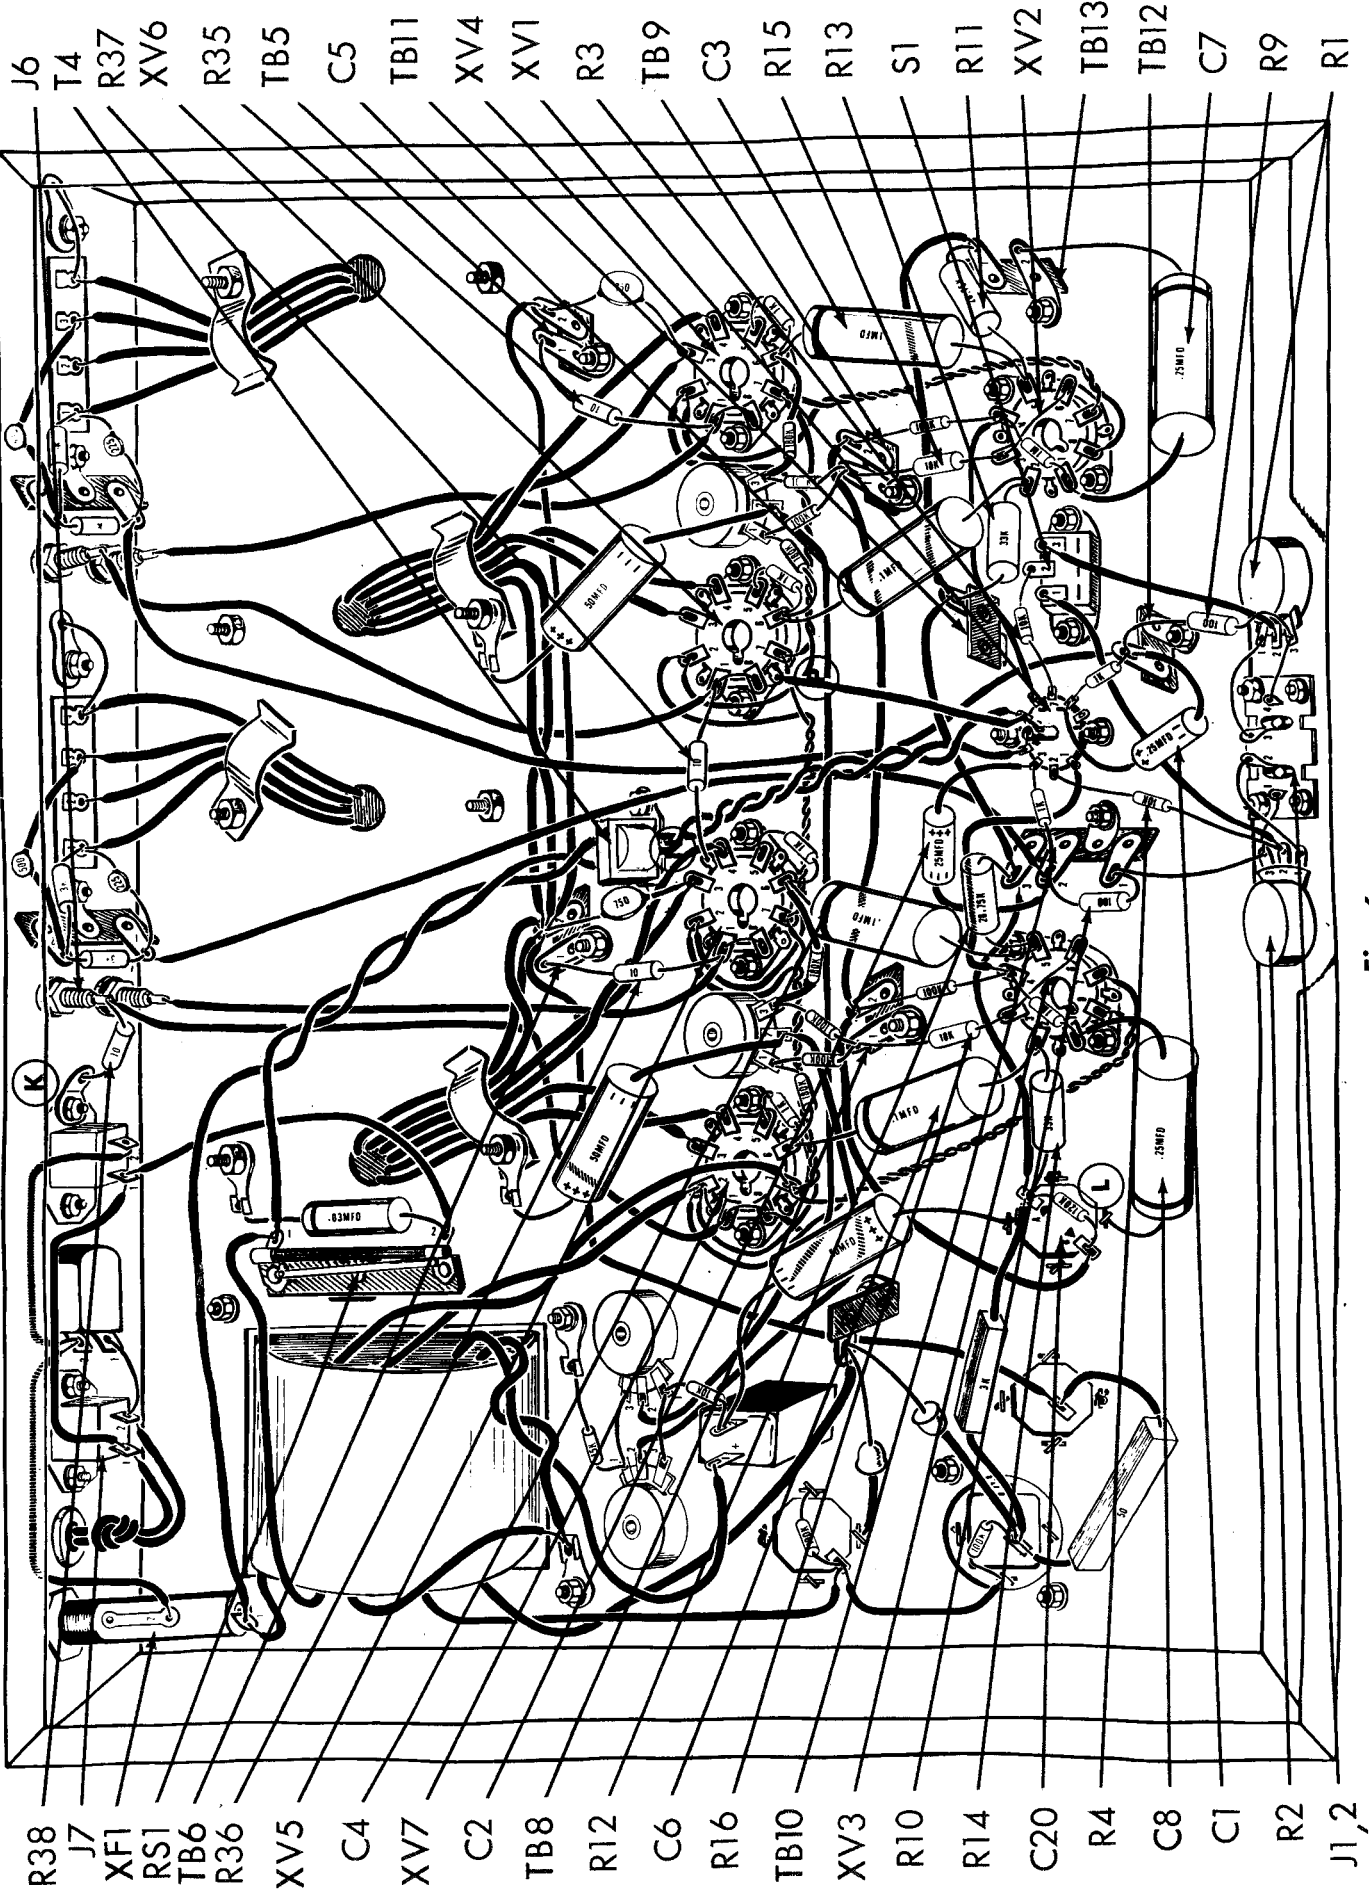

Fig. 6
- () 1. Fig. 6. Connect a 1/4" piece of bare wire from R2-3 (C) to TB10-1 (C).
- () 2. Fig. 6. Connect a 1 1/4" piece of bare wire from J1, 2-1 (S1) to R2-3 (S2).
- () 3. Fig. 6. Connect a 1 1/2" piece of bare wire from J1, 2-2 (S1) to R2-1 (S1).
- () 4. Fig. 6. Connect a 1 1/4" piece of bare wire from J1, 2-4 (S1) to R1-3 (C).
- () 5. Fig. 6. Connect a 1 1/4" piece of bare wire from J1, 2-3 (S1) to R1-1 (S1).
- () 6. Fig. 6. Connect a 3" piece of green wire from R1-2 (S1) to S1-3 (S1).
- () 7. Fig. 6. Connect a 4" piece of green wire from R2-2 (C) to S1-1 (S1).
- () 8. Fig. 6. Cut both leads on a 25mfd 6 volt electrolytic capacitor, C1, to 1". Cover each lead with a 3/4" piece of spaghetti. Connect the positive lead to XV1-8 (S2) and the negative lead to TB12 (C).
- () 9. Fig. 6. On the other 25mfd 6 volt electrolytic capacitor, C2, cut the positive lead to 3/4". Cover this lead with a 1/2" piece of spaghetti and connect to XV1-3 (S2). Cut the remaining lead to 1 1/4" and cover it with a 1" piece of spaghetti. Connect this lead to TB10-2 (C).
- () 10. Fig. 6. Cut all leads on two 100Ω (brown, black, brown, gold) 5% resistors, R9 and R10, to 1/2". Connect R9 from TB12 (S4) to R1-3 (S2). Connect R10 from TB10-1 (S2) to TB10-2 (S4).
- () 11. Fig. 6. Cut one lead of the 10K (brown, black, orange, silver) resistor R3 to 1/2" and the remaining lead to 1". Connect the shorter lead to XV1-7 (S1) and the longer lead to S1-2 (S1).
- () 12. Fig. 6. Cut one lead on the 10K (brown, black, orange, silver) resistor, R4, to 1/2" and the remaining lead to 1 1/4". Connect the shorter lead to XV1-2 (S1) and the longer lead to R2-2 (S2).
- () 13. Fig. 6. Cut all leads on two .25 mfd (red, green, yellow, white, yellow) 400 volt molded capacitors, C7 and C8, to 1 1/4". Cover one lead of C7 with a 1" piece of spaghetti and connect to XV2-1 (S2). Connect the remaining lead to TB13-2 (S1). Cover one lead of C8 with a 1" piece of spaghetti and connect to XV3-1 (S2). Connect the remaining lead to ground lug "L" (S1), at C20.
- () 14. Fig. 6. Cut all leads on two 18K (brown, grey, orange, gold) 5%, 1 watt resistors R15 and R16, to 3/4". Connect R15 from XV2-3 (S2) to TB9-1 (S3). Connect R16 from XV3-3 (S2) to TB8-1 (S3).
- () 15. Fig. 6. Cut all leads on two 28.75K (red, grey, grey, gold) 5%, 1 watt resistors, R11 and R12, to 1/2". Connect R11 from TB13-1 (S2) to XV2-5 (C). Connect R12 from XV3-5 (C) to TB10-3 (S3).
- () 16. Fig. 6. Cut all leads on two 33K (orange, orange, orange, gold) 5%, 1 watt resistors, R13 and R14, to 3/4". Connect R13 from XV2-2 (C) to TB11 (S3). Connect R14 from XV3-2 (C) to C20-A (S4).
- () 17. Fig. 6. Cut all leads on four .1mfd (brown, black, yellow, white, blue) molded capacitors, C3, C4, C5, and C6, to 1". Connect C3 from XV2-5 (S2) to XV4-6 (S3). Connect C5 from XV2-2 (S2) to XV6-6 (S3). Connect C4 from XV3-5 (S2) to XV5-6 (S3). Connect C6 from XV3-2 (S2) to XV7-6 (S3).
- () 18. Fig. 6. Cut both leads on the 100Ω, 1 watt, 1% resistor, R38 to 3/4". Connect from J6 (S2) to ground lug "K" (S1).
- () 19. Fig. 6. Cut all leads on three 100Ω, 1 watt, 1% resistors, R35, R36 and R37 to 3/4". Connect R35 from XV4-1 (S3) to TB5-1 (S1). Connect R37 from XV6-1 (S3) to ground lug "N" (S1) at XV5. Connect R36 from XV5-1 (S3) to TB6-1 (S1).
- () 21. Connect a 3" piece of yellow wire from the center post (S1) on XVI, through XV1-5 (C) to ground lug "P" (S1) on XV6.
- () 24. Fig. 6. Push the end of the line cord with tinned leads through the rubber grommet at the rear of the chassis. Tie a knot in the line cord 2" from the tinned ends. This knot is to be tied inside the chassis so that the line cord cannot pull through the grommet. Connect one of the tinned leads to J7-2 (S2) and the remaining tinned lead to J7-1 (S2).